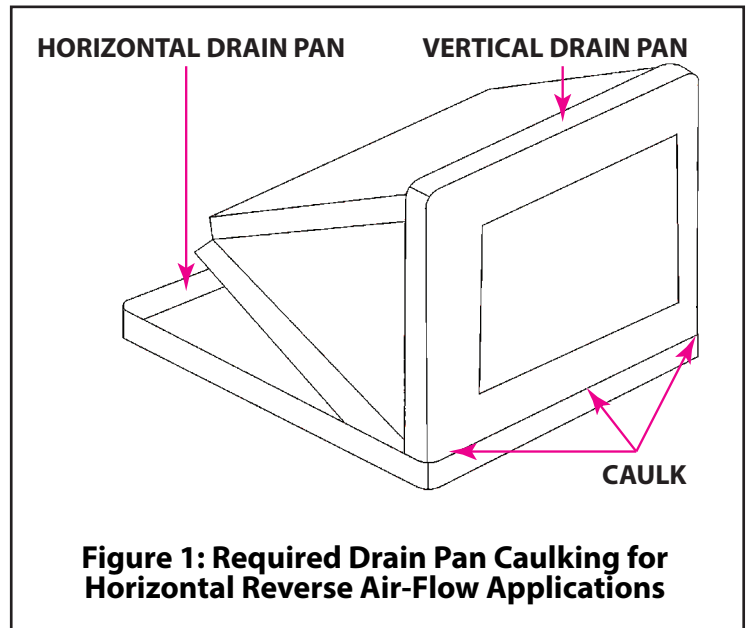
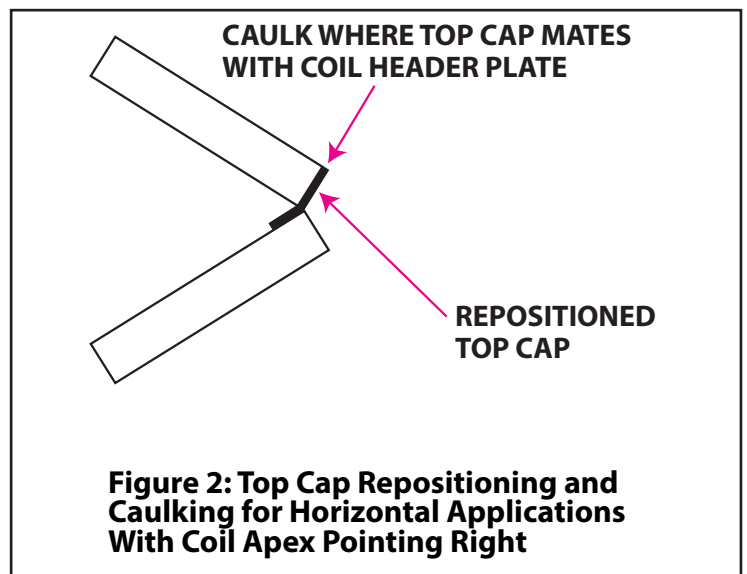
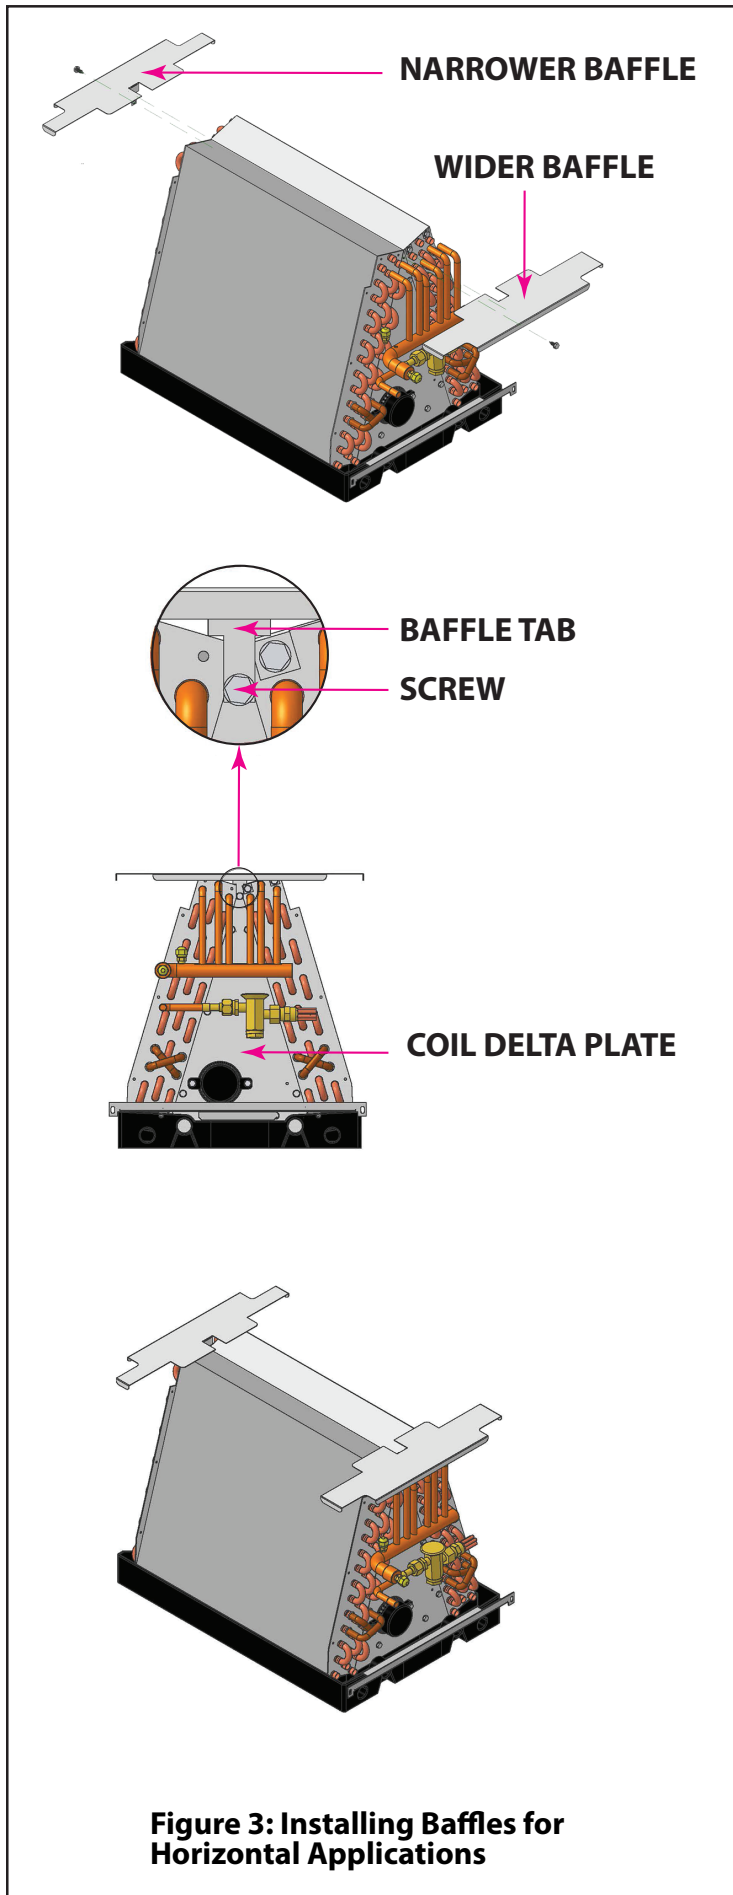

Figure 1: Required Drain Pan Caulking for Horizontal Reverse Air-Flow Applications
Figure 2: Top Cap Repositioning and Caulking for Horizontal Applications With Coil Apex Pointing Right
Figure 3: Installing Baffles for Horizontal Applications
apex of the coil to point to the right, the horizontal drain pan must be removed and installed on the opposite side of the coil and the coil top cap must be removed, repositioned, and re-caulked as shown in Figure 1.
- For horizontal reverse air-flow applications where the air enters the apex of the coil, caulking must be used to seal between the vertical and horizontal drain pans to prevent air from blowing water out of the horizontal drain pan between the drain pans as shown in Figure 2. Seal the seam between the vertical and horizontal drain pans by caulking the mating surface on the horizontal drain pan and setting the vertical drain pan on it. Center the vertical drain pan in horizontal drain pan and add screws in the corners to secure the drain pans together.
All horizontal applications require baffles to be attached to the front and back of the coil apex as shown in Figure 3. These baffles are required for the refrigerant leak detection system to function properly should a refrigerant leak develop when the coil is operating in the horizontal orientation. For cased coils, the coil must be removed from the case before installing the baffles. For horizontal right discharge applications, reposition and caulk the top cap (See Figure 2) and horizontal drain pan (See Figure 1) before installing the baffles. Remove the baffles from the parts bag provided with the coil. The narrower baffle is to be installed at the back of the coil and the wider baffle is to be installed at the front of the coil where the header and TXV are located. Place the baffles on top of the coil apex as shown in Figure 3 and use the 2 screws provided in the parts bag to attach each baffle tab to the top of the coil delta plates as shown in Figure 3. Slide the coil into the coil case and continue with the coil installation process.